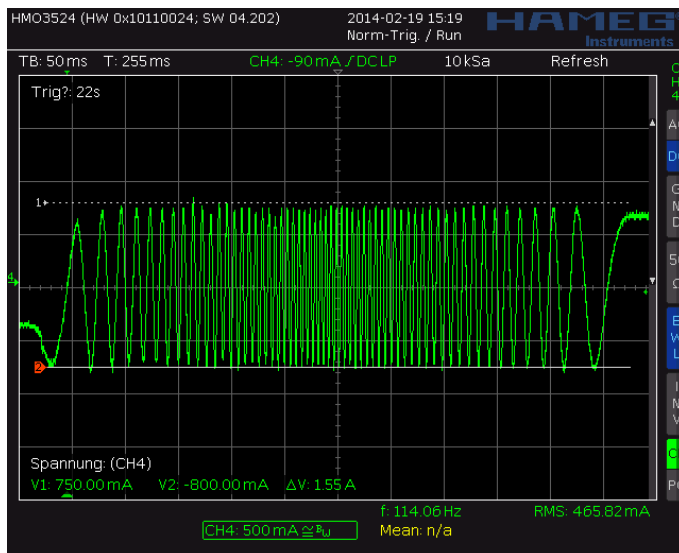
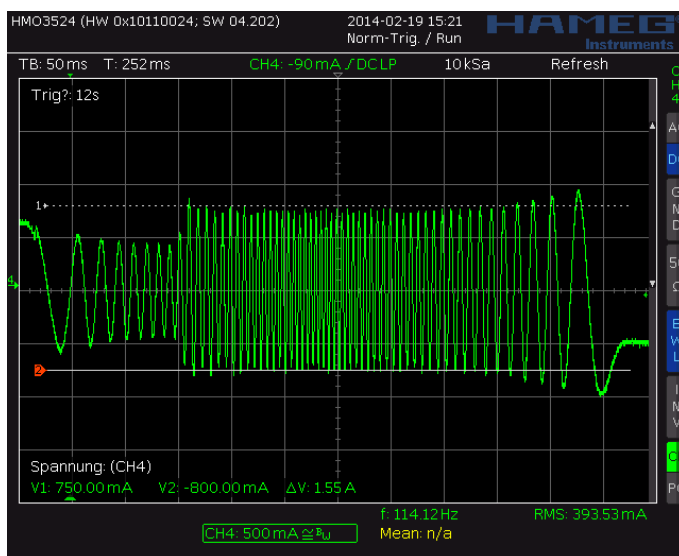
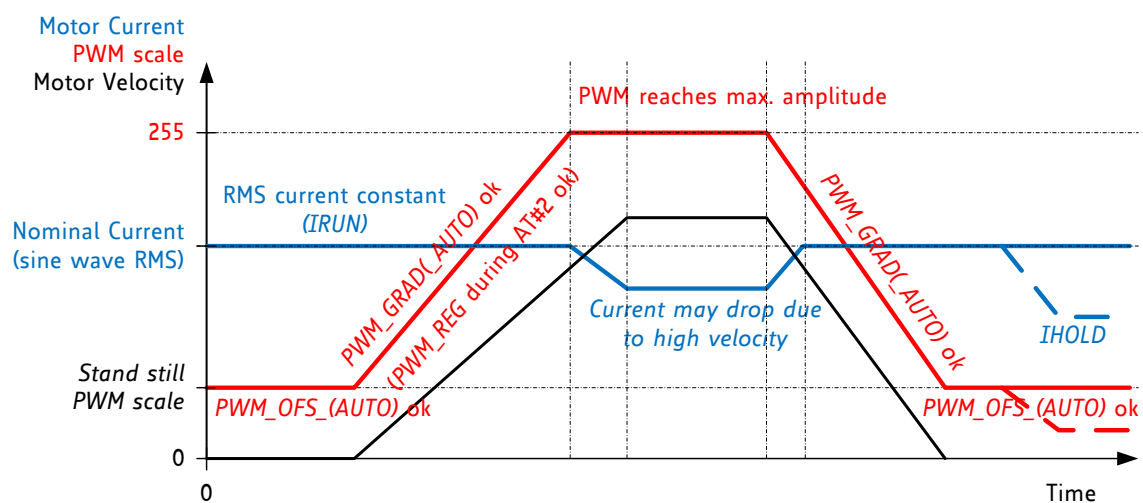

Figure 6.3 Scope shot: good setting for PWM_REG
Figure 6.4 Scope shot: too small setting for PWM_REG during AT#2
Figure 6.5 Successfully determined PWM_GRAD(AUTO) and PWM_OFS(AUTO)
In StealthChop voltage PWM mode, the autoscaling function (*pwm_autoscale* = 1, *pwm_autograd* = 1) regulates the motor current to the desired current setting. Automatic scaling is used as part of the automatic tuning process (AT), and for subsequent tracking of changes within the motor parameters. The driver measures the motor current during the chopper on time and uses a proportional regulator to regulate *PWM_SCALE_AUTO* in order match the motor current to the target current. *PWM_REG* is the proportionality coefficient for this regulator. Basically, the proportionality coefficient should be as small as possible to get a stable and soft regulation behavior, but it must be large enough to allow the driver to quickly react to changes caused by variation of the motor target current (e.g., change of *VREF*). During initial tuning step AT#2, *PWM_REG* also compensates for the change of motor velocity. Therefore, a high acceleration during AT#2 will require a higher setting of *PWM_REG*. With careful selection of homing velocity and acceleration, a minimum setting of the regulation gradient often is sufficient (*PWM_REG*=1). *PWM_REG* setting should be optimized for the fastest required acceleration and deceleration ramp (compare Figure 6.3 and Figure 6.4). The quality of the setting *PWM_REG* in phase AT#2 and the finished automatic tuning procedure (or non-automatic settings for *PWM_OFS* and *PWM_GRAD*) can be examined when monitoring motor current during an acceleration phase Figure 6.5.